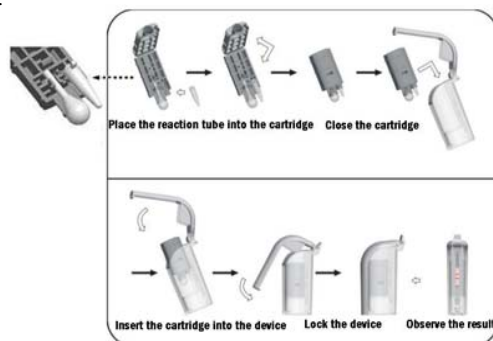

Figure 1 Operation of Detection Device
- Before use, please check the vacuole without leakage and in position. If the vacuole fall off within the packaging of inner core, install it in position according to Figure 1. If it is leakage, please use the spare vacuole.
3. Insert the cartridge into the Detection Device, push the handle to the locked position (refer to Figure 1).